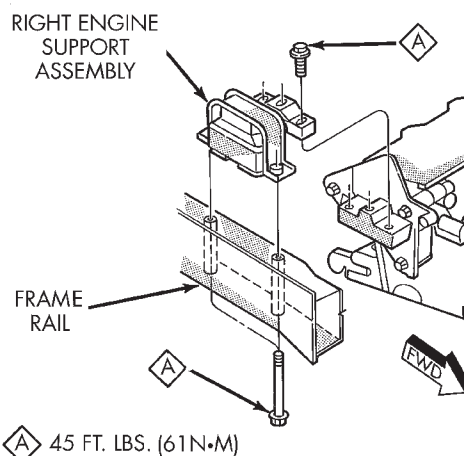

Fig. 22 Engine Mounting—Right Side
- (1) Raise vehicle on a hoist and remove inner splash shield. Remove the right engine support assembly vertical fasteners from frame rail (Fig. 22).
- (2) Lower vehicle. Remove the load on the engine motor mounts by carefully supporting the engine assembly with a floor jack.
- (3) Remove the three bolts attaching the engine support assembly to the engine bracket.
- (4) Move the air conditioning dryer aside.
- (5) Remove coolant recovery system tank. Refer to Group 7, Cooling System for procedure.
- (6) Remove right engine support.
- (7) Remove the three bolts attaching the engine support bracket to the cylinder block.
- (8) Reverse removal procedure for installation. Refer to (Fig. 22) for torque specifications.